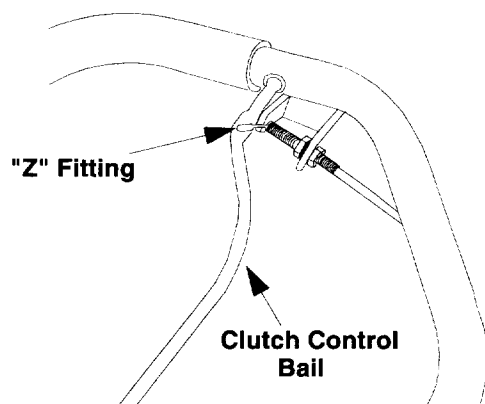

Figure 6
3. Pull the cable upwards to obtain slack, push the "Z" end into the bail. You will need to attach "Z" fitting from the inside to the outside. See Figure 6.